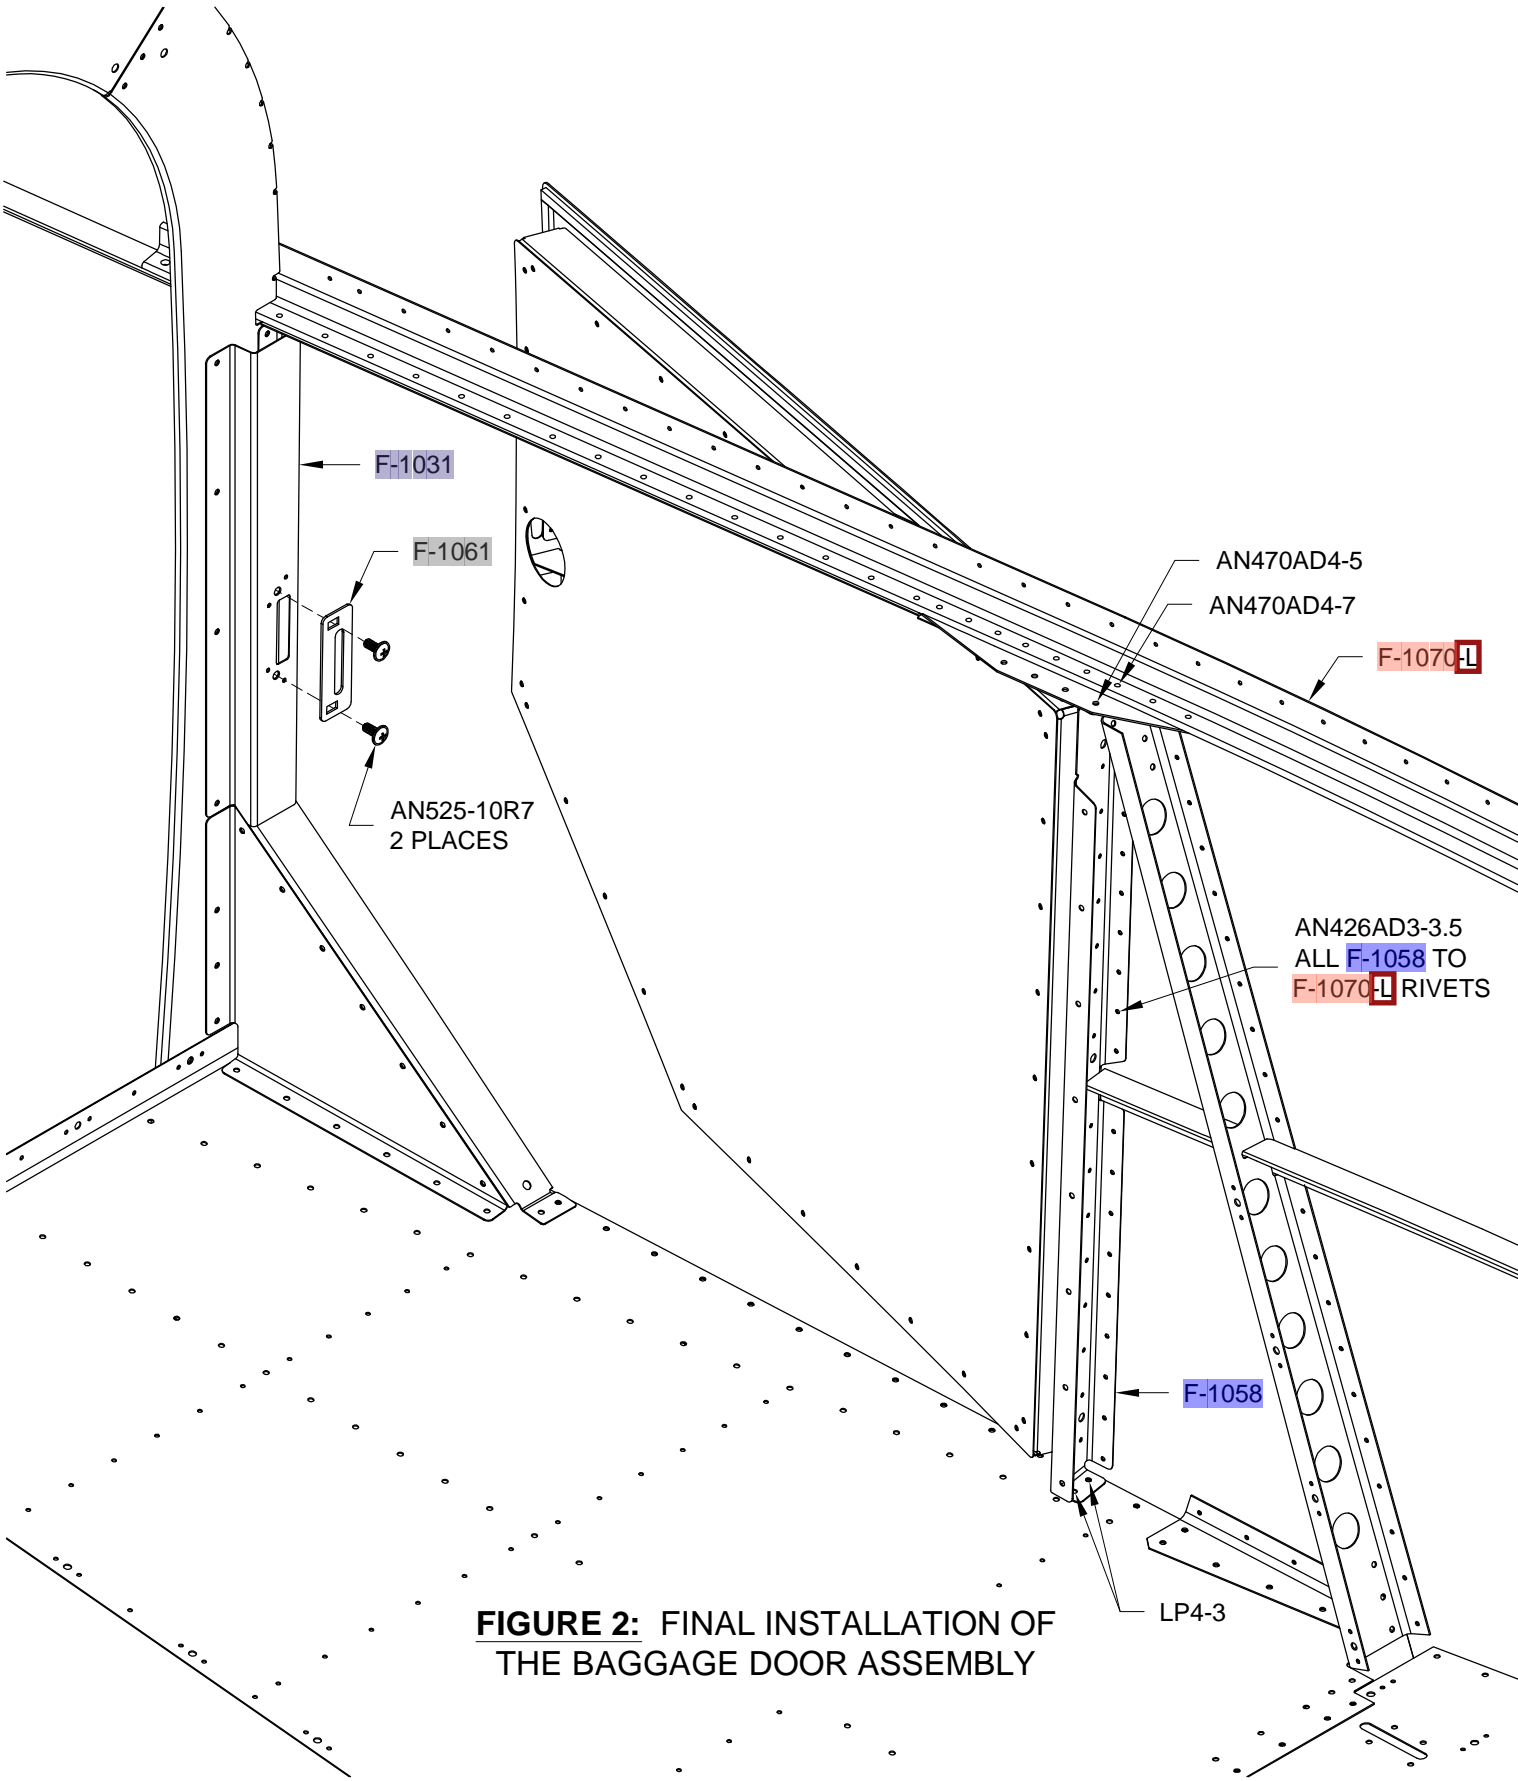

FIGURE 2: FINAL INSTALLATION OF THE BAGGAGE DOOR ASSEMBLY
Step 7: Attach the F-1061 Striker Plate to the F-1031 Upper Baggage Door Seal Channel using the hardware shown in Figure 2. Adjust the striker plate as needed to flush the aft end of the Baggage Door Assembly with the fuselage when the door is closed and locked.